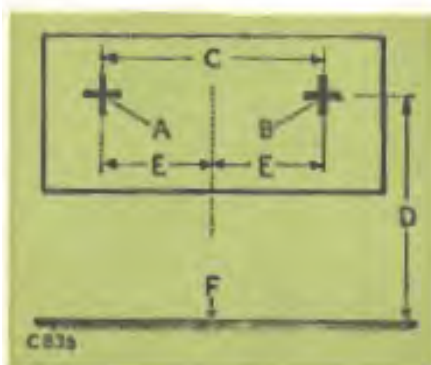

Fig. 17. Headlamp setting board dimensions
1. Mark on the board the dimensions given in Fig. 17 and position the vehicle, unladen, on level ground.